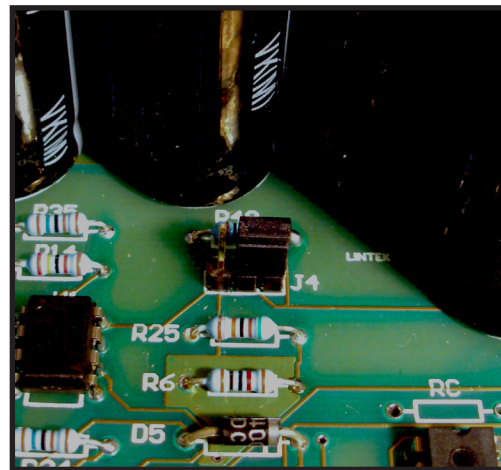

Figure 6 (Above): Sealed Battery Setting
- The above procedure can be repeated to turn back to sealed mode – **see Figure 6.**